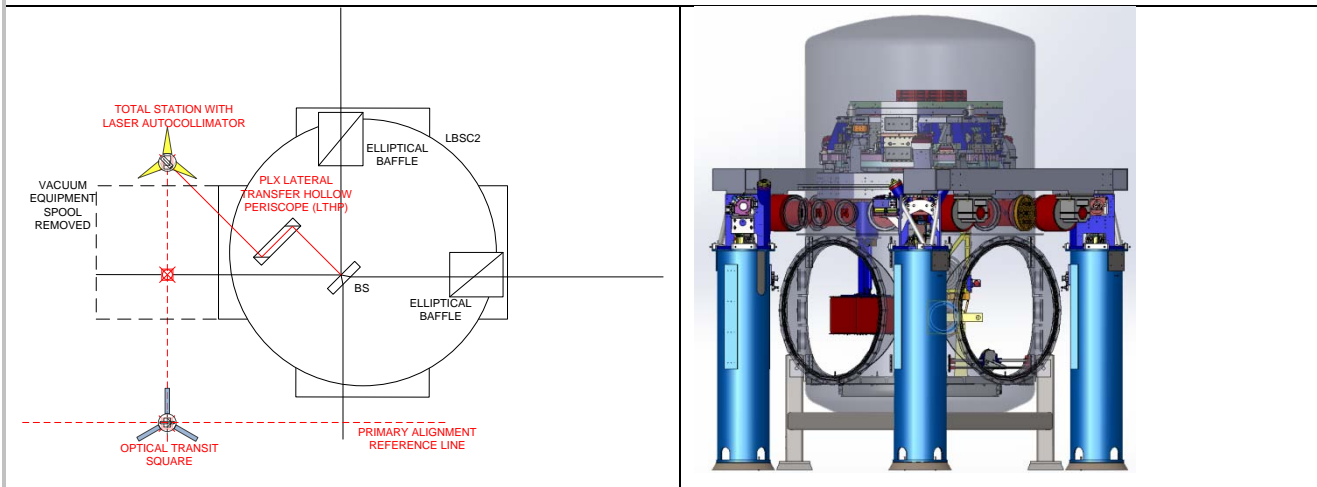

Figure 8
- Align the LTHP so that the input beam is collinear with the Total Station (see Figure 8).